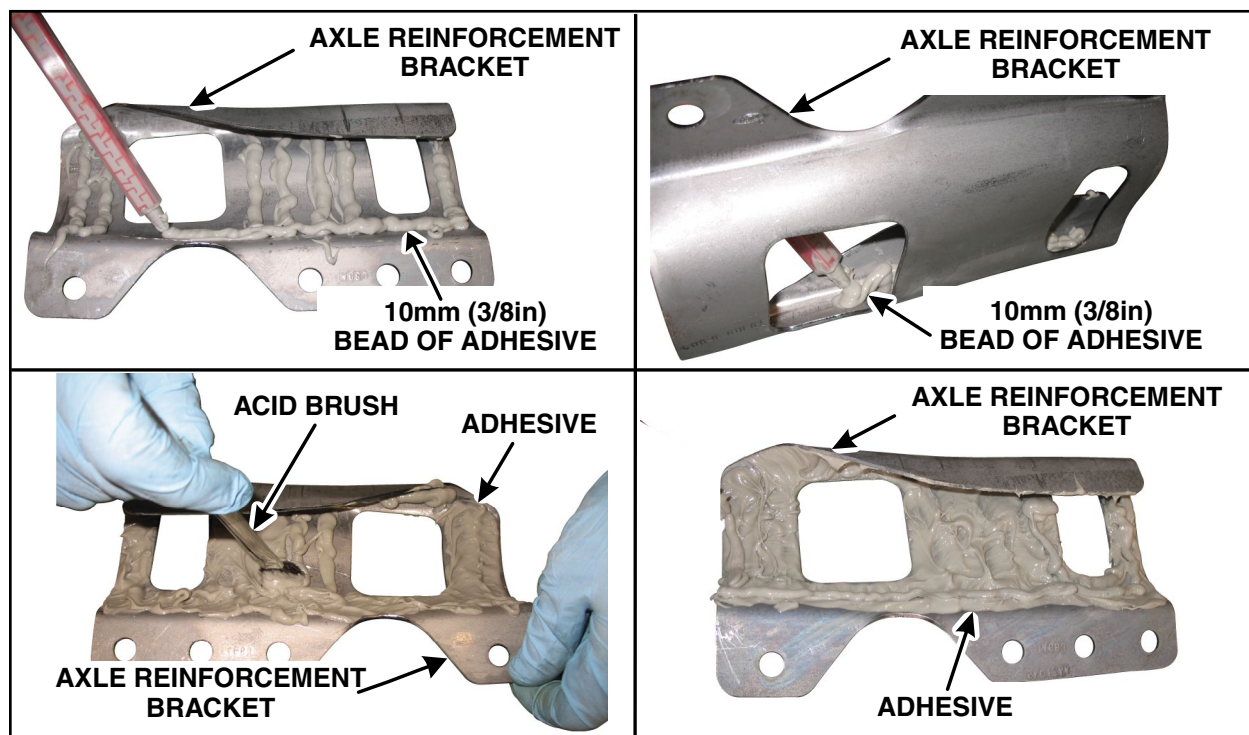

FIGURE 7
11. Using 10 mm (3/8 in) beads, dispense 1/4 of the adhesive cartridge onto each of two mating axle reinforcement brackets. Make sure to run a bead around the perimeter of each axle reinforcement bracket. Spread the adhesive evenly with an acid brush. See Figure 7.